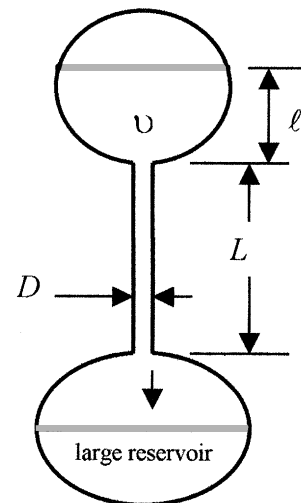

Fig. P6.17
6.17 A *capillary viscometer* measures the time required for a specified volume v of liquid to flow through a small-bore glass tube, as in Fig. P6.17. This transit time is then correlated with fluid viscosity. For the system shown, (a) derive an approximate formula for the time required, assuming laminar flow with no entrance and exit losses. (b) If $L = 12 \text{ cm}$, $l = 2 \text{ cm}$, $v = 8 \text{ cm}^3$, and the fluid is water at 20°C, what capillary diameter D will result in a transit time t of 6 seconds?